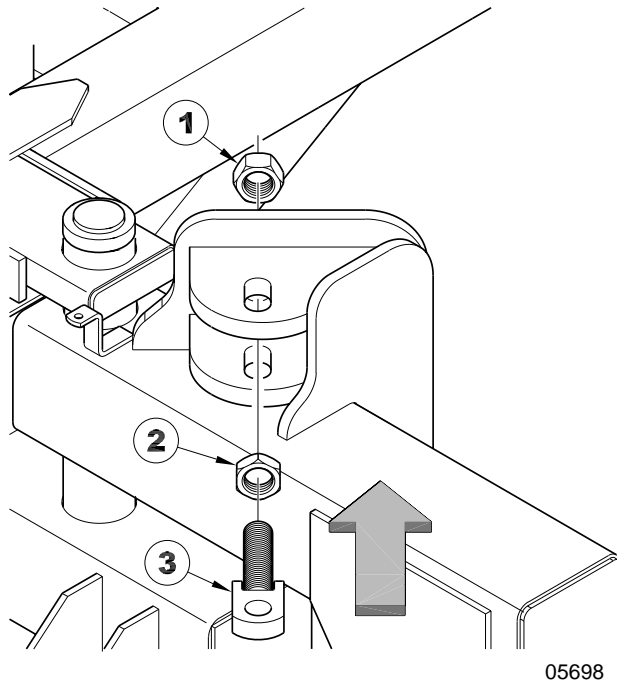

Figure 38
7. Loosen the jam nut (#2) as shown in on the inside of the mount shown in Figure 38. By tightening the nut (#1) on the outside of the mount, the stroke of the fold cylinder will lengthen which will bring the wings together at the front of the Xpress Air Drill. Make equal adjustments to each side.